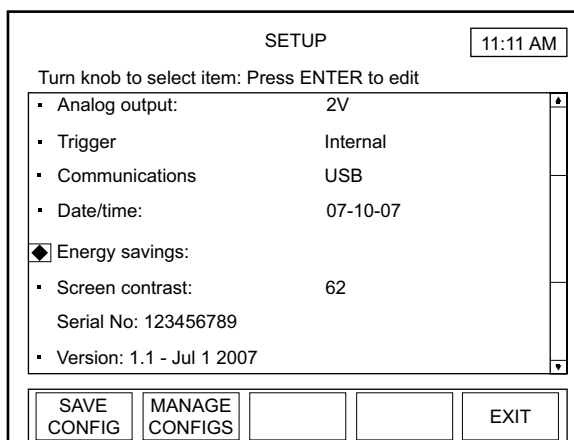

Figure 4-57. SETUP: Energy Savings
1. On the main SETUP screen, turn the Selection knob to move the diamond indicator to Energy Savings (Figure 4-57).